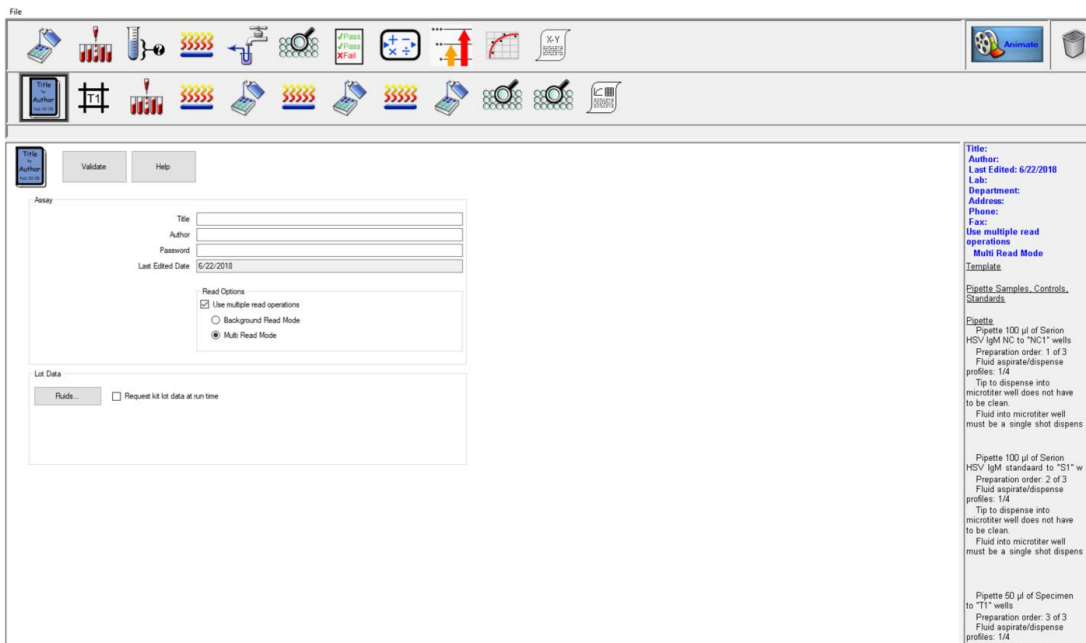

Figure 77: Assay Properties Form
► **Note:** The assay information and a password must be entered into the Assay Information dialog box and saved (Figure 77) before an operation can be added and configured for an assay.